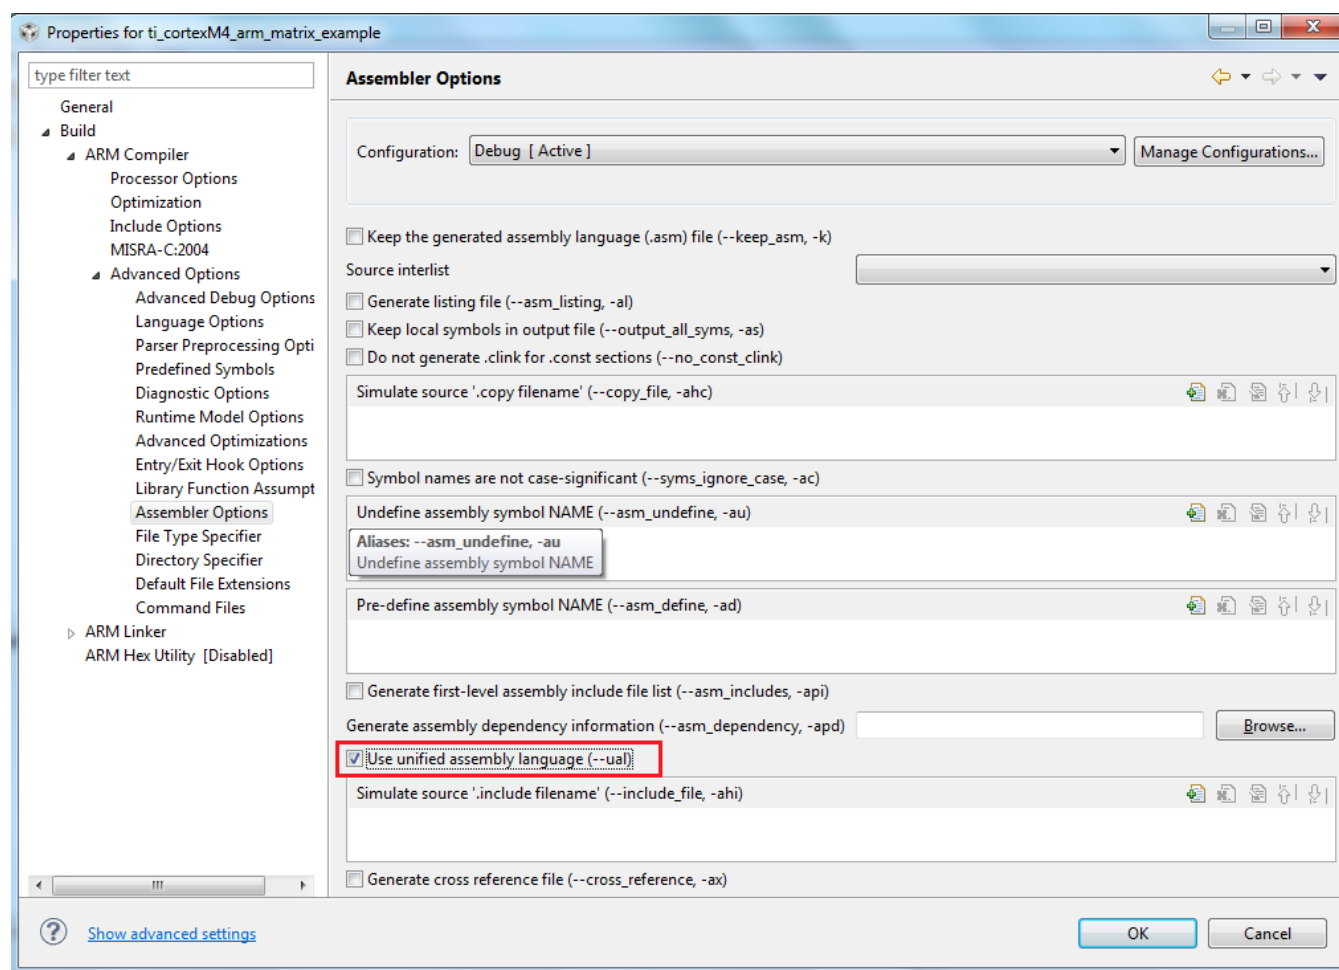

Figure 19. The Proper Assembler Options Needed for Compiling the Example Projects
- Click the *Use unified assembly language (--ual)* checkbox to select that option (see Figure 19).